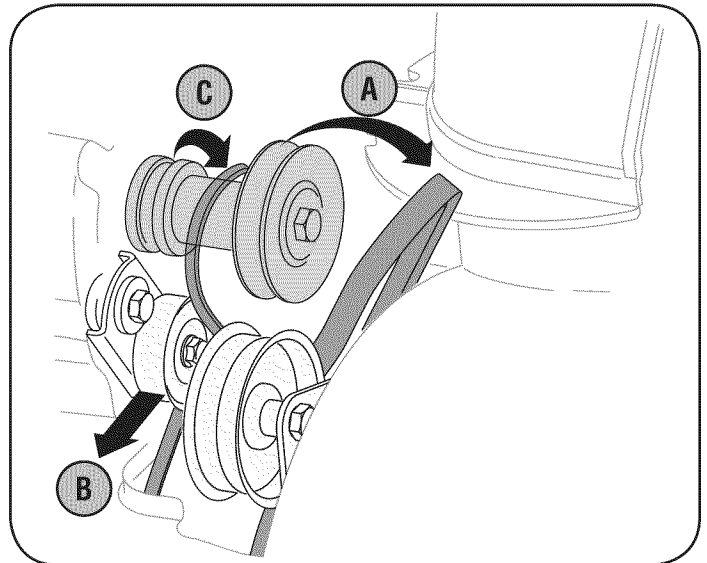

Figure 27
3. Remove the belt as follows. Refer to Figure 27.